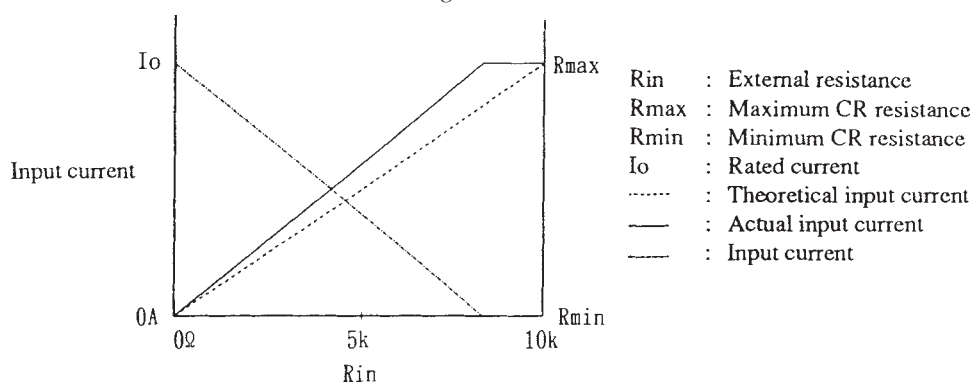

Figure 3.7-7
- The control circuit of the Electronic Load is designed so that the current (I_o) becomes absolutely zero amperes when the external resistor (R_{in}) is $10k\ \Omega$ --this resistance with some tolerance as shown in Figure 3.7-7.